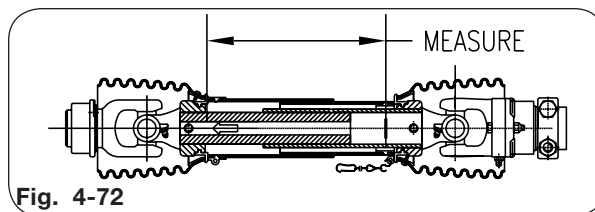

Fig. 4-72
7. Measure the length “L” from the same points as used in step 1. **This distance must be at least 1.5 inches greater than the distance measured in step 1.** If necessary, adjust the length of the PTO shaft by cutting the inner and outer plastic guard tubes and inner and outer sliding profiles by the same length. Round off all sharp edges and remove burrs before greasing and reassembling shaft halves. (Fig. 4-72)